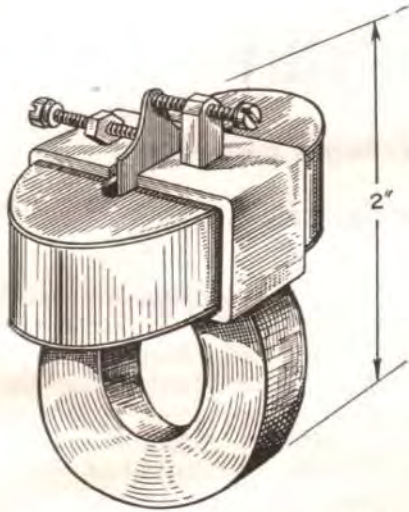

Fig. 3 — The DG-6 Sensitive Relay.
- Relay — See text and Fig. 3.